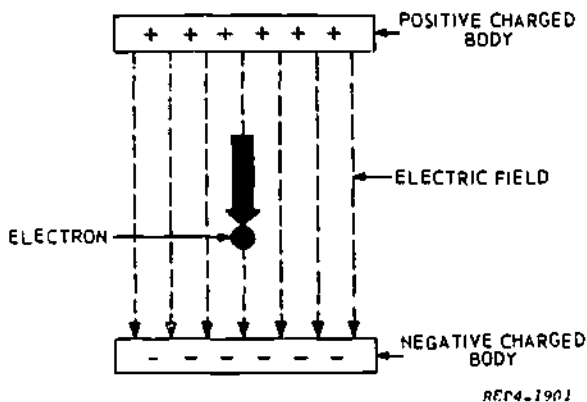

Figure 1
5. The electron in figure 1 is traveling (against)(with) the electrostatic field and (absorbs)(gives up) energy (from)(to) the electrostatic field and (accelerates)(decelerates).